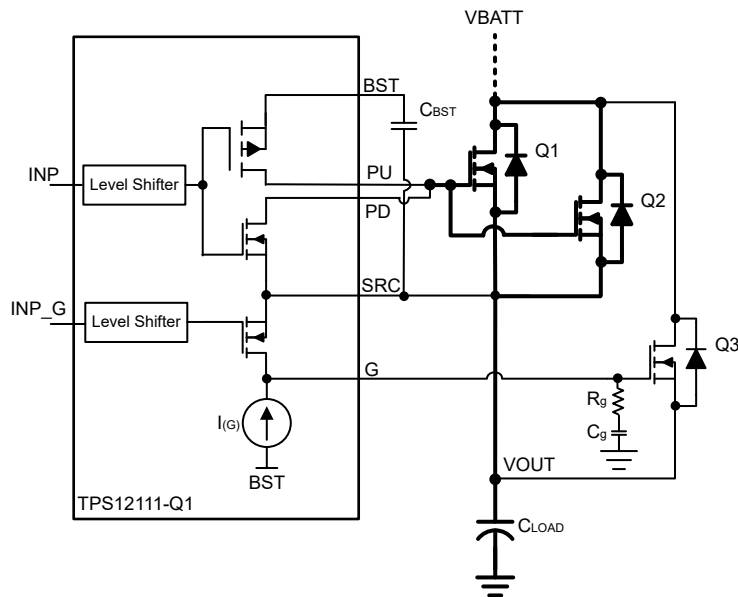

图 8-7. Capacitor Charging Using Gate Slew Rate Control of Precharge FET
The TPS12111-Q1 integrates precharge gate driver (G) with a dedicated control input (INP\_G). This feature can be used to drive a separate FET that can be used to precharge the capacitive load. 图 8-7 shows the precharge FET implementation for capacitive load charging using TPS12111-Q1. An external capacitor  $C_g$  reduces the gate turn-ON slew rate and controls the inrush current.